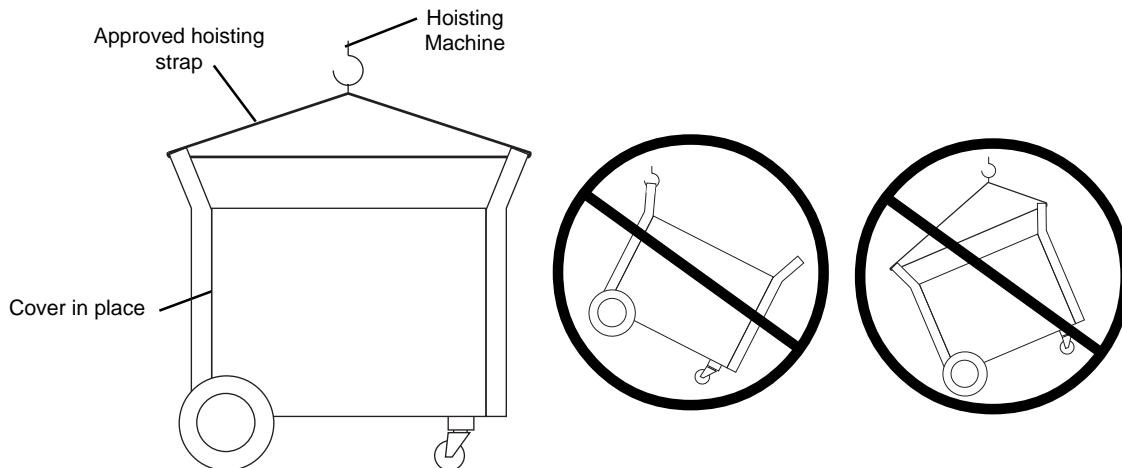

Figure 3-1 Powermax1100 Power Supply Hoisting Setup
3. Route the strap between the two handles as shown in Fig. 3-1.